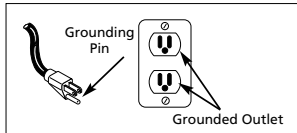

Figure 3 - Grounding Method
3. This product is for use on a nominal 120 volt circuit and has a grounding plug that looks like the plug illustrated in Figure 3. Make sure the product is connected to an outlet having the same configuration as the plug. This product must be grounded. In the event of an electrical short circuit, grounding reduces risk of electrical shock by providing an escape wire for electric current. This product is equipped with a cord having a grounding wire with an appropriate grounding plug. Plug must be plugged into an outlet that is properly installed and grounded in accordance with all local codes and ordinances.